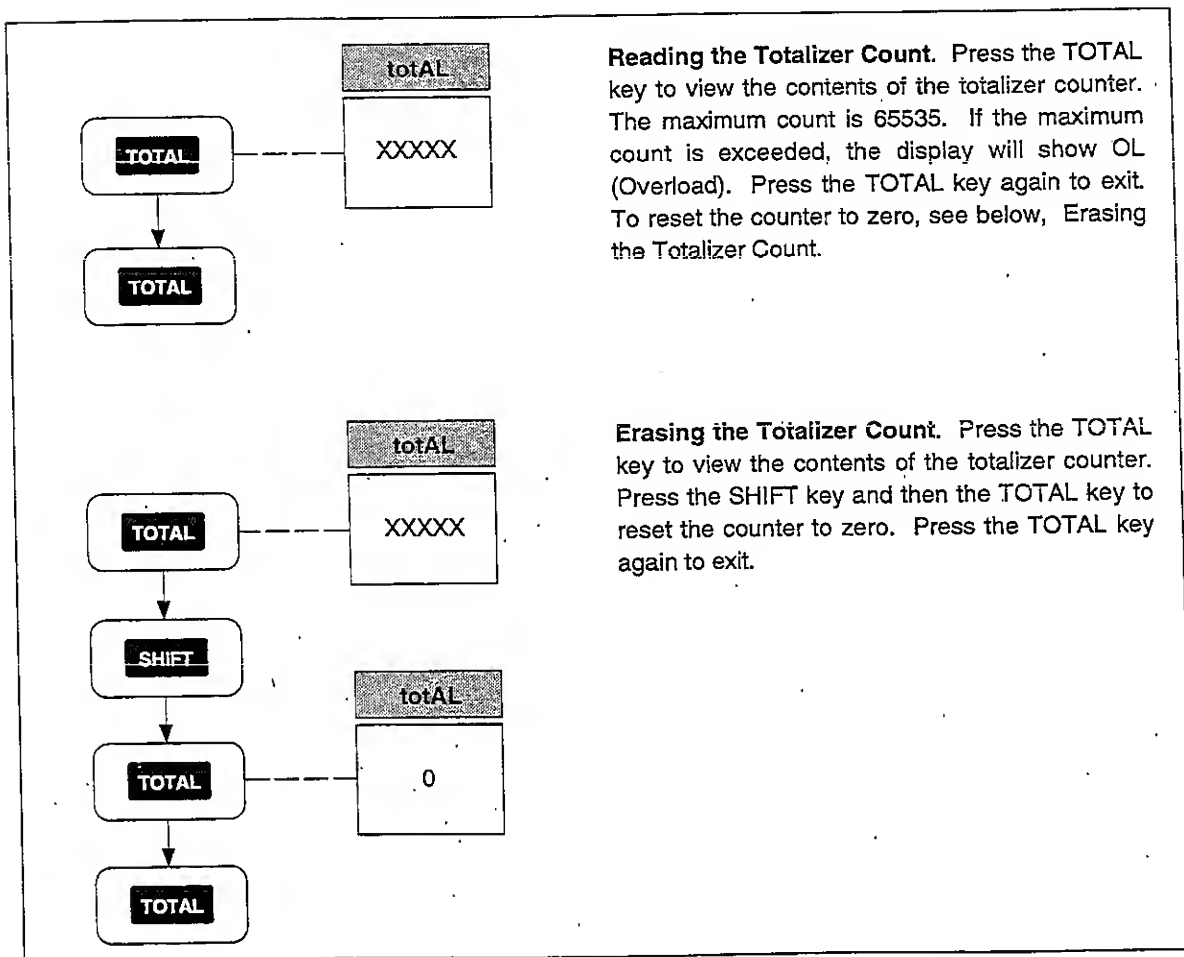

Figure 2-20. Totalizer Operation
- Totalizer Operation (Figure 2-20)
Perform the procedure in Figure 2-20 to use the totalizer feature. The totalizer count can be monitored when the instrument is active or inactive. The totalizer is an internal counter that sums contact closures or voltage transitions. Connection is at the rear panel DIGITAL I/O connector, pins Σ and ' '. A contact closure between Σ and ' ' or a voltage transition applied to Σ (referenced to ' '), will cause the totalizer to advance by one count. The maximum count allowed is 65535 and the maximum count rate is 5 kHz. Voltages trigger on a low-to-high transition at a nominal threshold of +1.4 volts. A contact debounce feature is available when the instrument is operated through a computer interface. (See Section 4, "Computer Operations.")